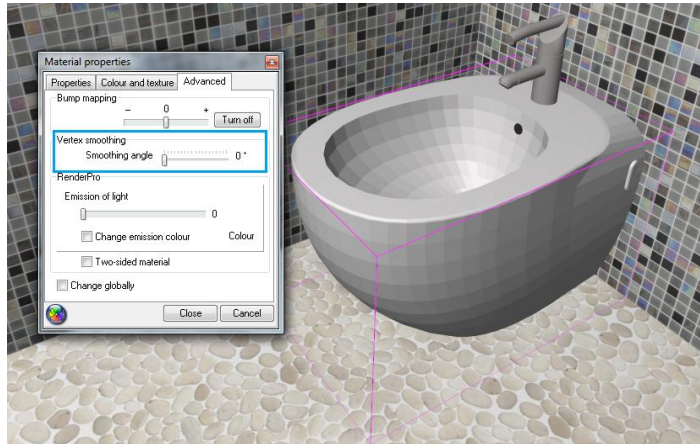

Fig. 179 – before using the function of vertex smoothing
- thanks to this option is it possible to diminish or remove sharp edges or corners in places, where objects should be smooth and rounded (Fig. 179 and 180);